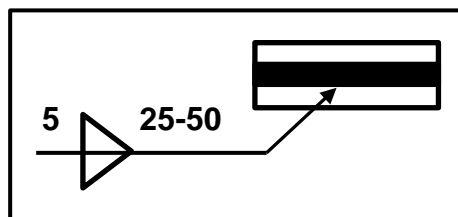

FIGURE 5.7
5.7 State the meaning of the dimensions of the weld indicated in FIGURE 5.7 below.